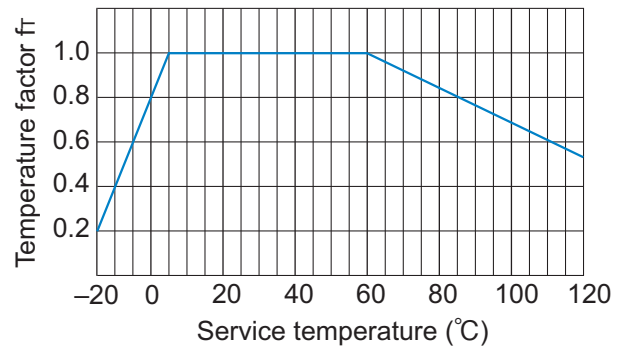

Fig.2 Temperature Factor
If the temperature of the lead screw nut exceeds the normal temperature range, the seizure resistance of the nut and the strength of the material will decrease. Therefore, it is necessary to multiply the dynamic permissible torque (T) and the dynamic permissible thrust (F) by the corresponding temperature factor indicated in Fig.2. Accordingly, when selecting a lead screw nut, the following equations need to be met in terms of its strength.
$f_T$  : Temperature factor (see Fig.2)